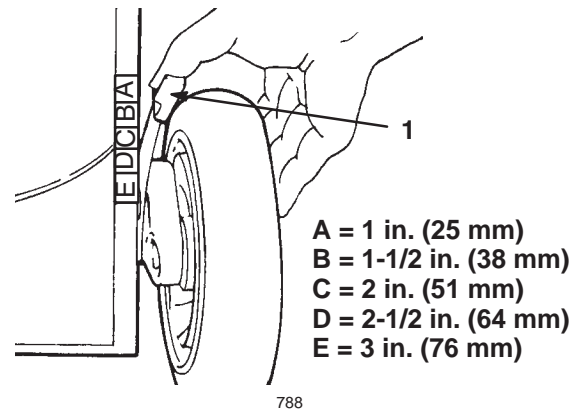

Figure 18
4. Squeeze the cutting height lever toward the wheel and move it to the corresponding letter on the lawn mower housing (Fig. 18).